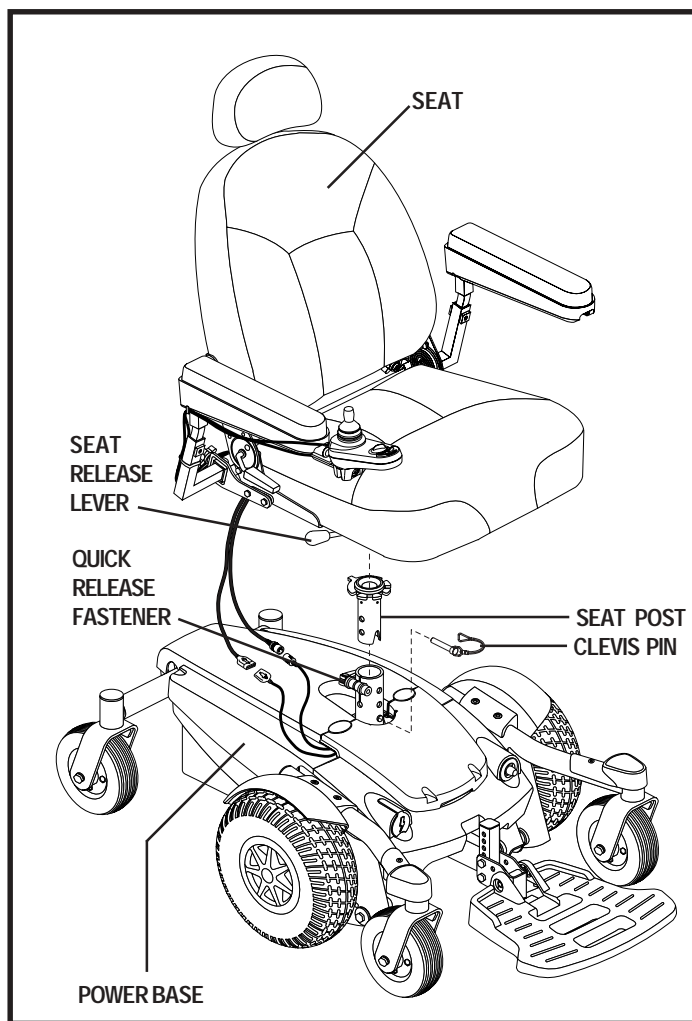

Figure 19. Seat Height Adjustment
3. Loosen the quick release fastener. See figure 19.
4. Remove the seat. See figure 19.